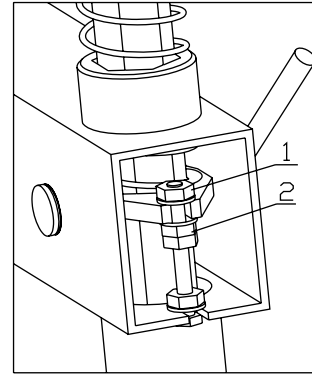

Figure 11-4
- Tighten the drive belt by means of the special adjusting screw (1) on the motor support until the belt moves 8 mm when adding a stress of 18 LBS on the belt.
- It is necessary to adjust the screw (1) in the locking plate of the mounting arm, if the mounting head doesn't lock or it doesn't rise from the rim of 2mm necessary for working.(figure 11-4)